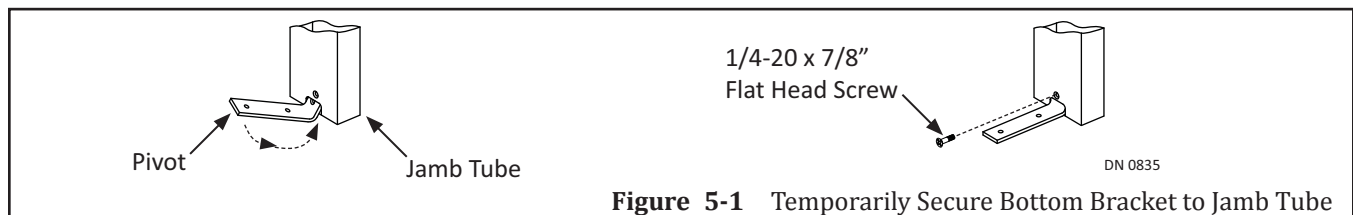

Figure 5-1 Temporarily Secure Bottom Bracket to Jamb Tube
- a. (2) 1/4 - 20 round head screws provided by the Pivot Manufacturer are not required.
3. Insert the Bottom Pivot into Notch located at the bottom of Jamb tube. Please see Figure 5-1.
4. Temporarily secure Bottom Pivot to Jamb tube with (1) 1/4-20 x 7/8 inch Flat Head screw.